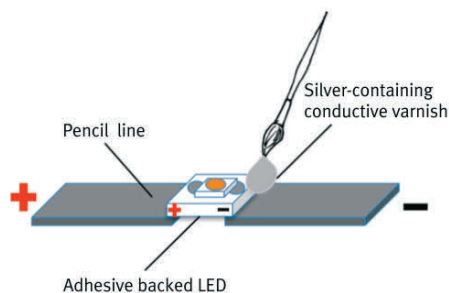

Figure 3: Connecting the LED to the pencil line with silver-containing conductive varnish
- Connect the LED’s solder joints to the pencil lines with a brushstroke of silver-containing conductive varnish (see figure 3).